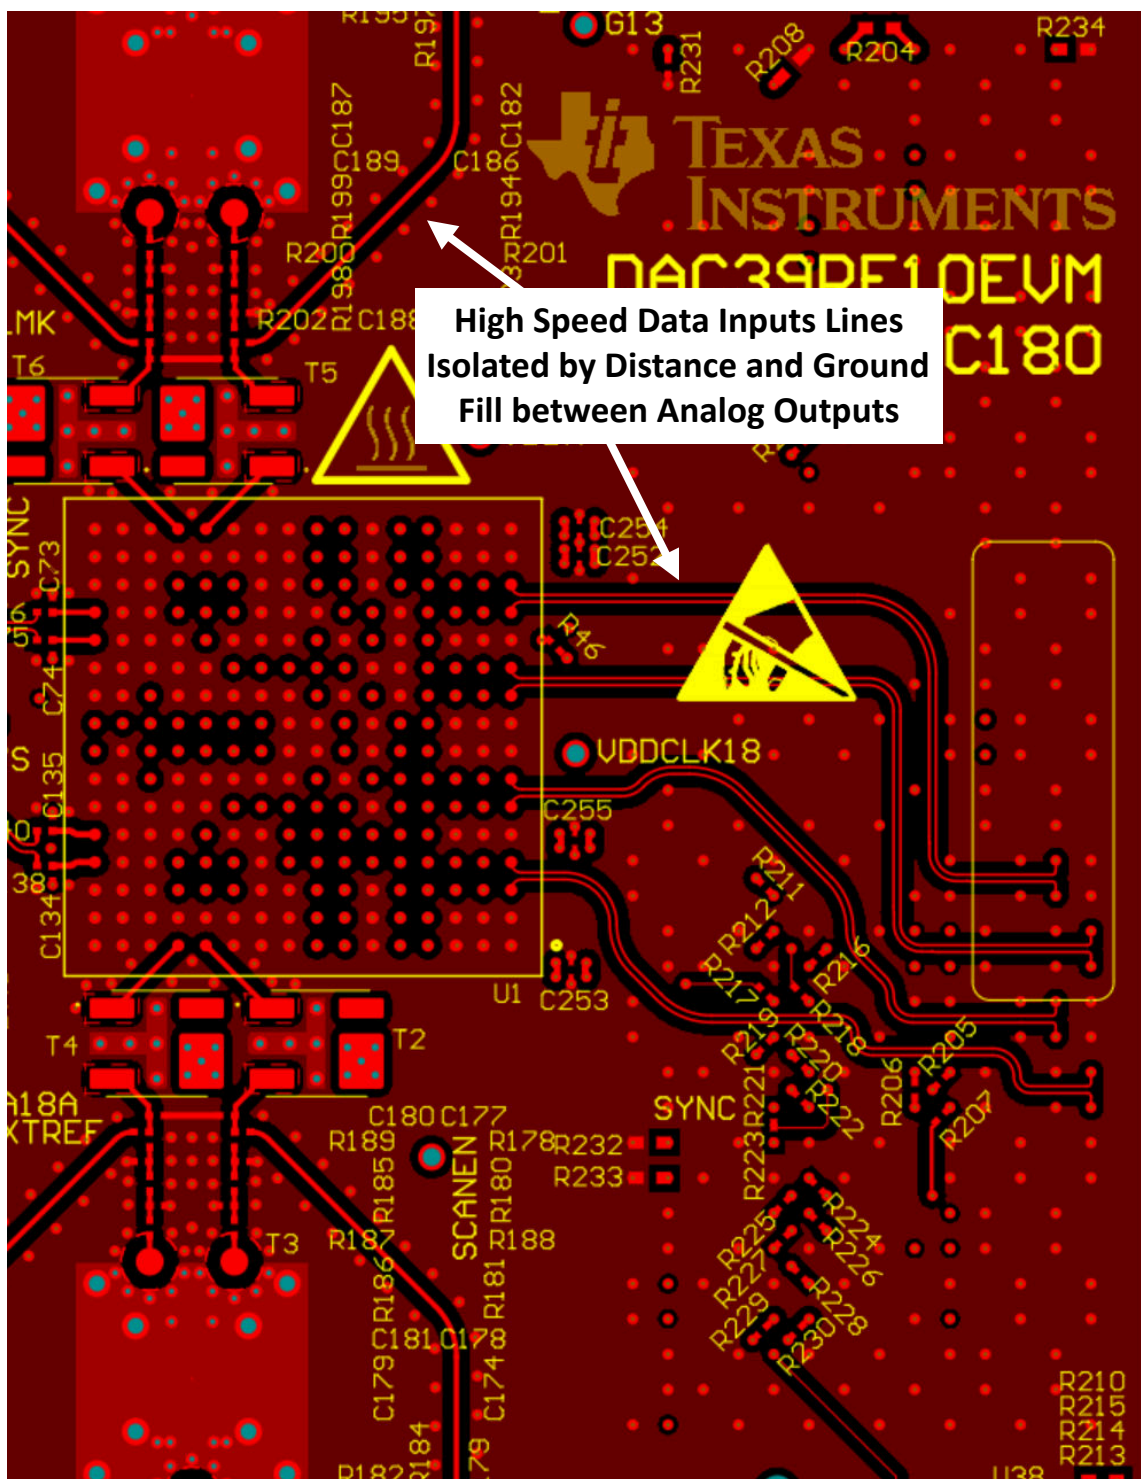
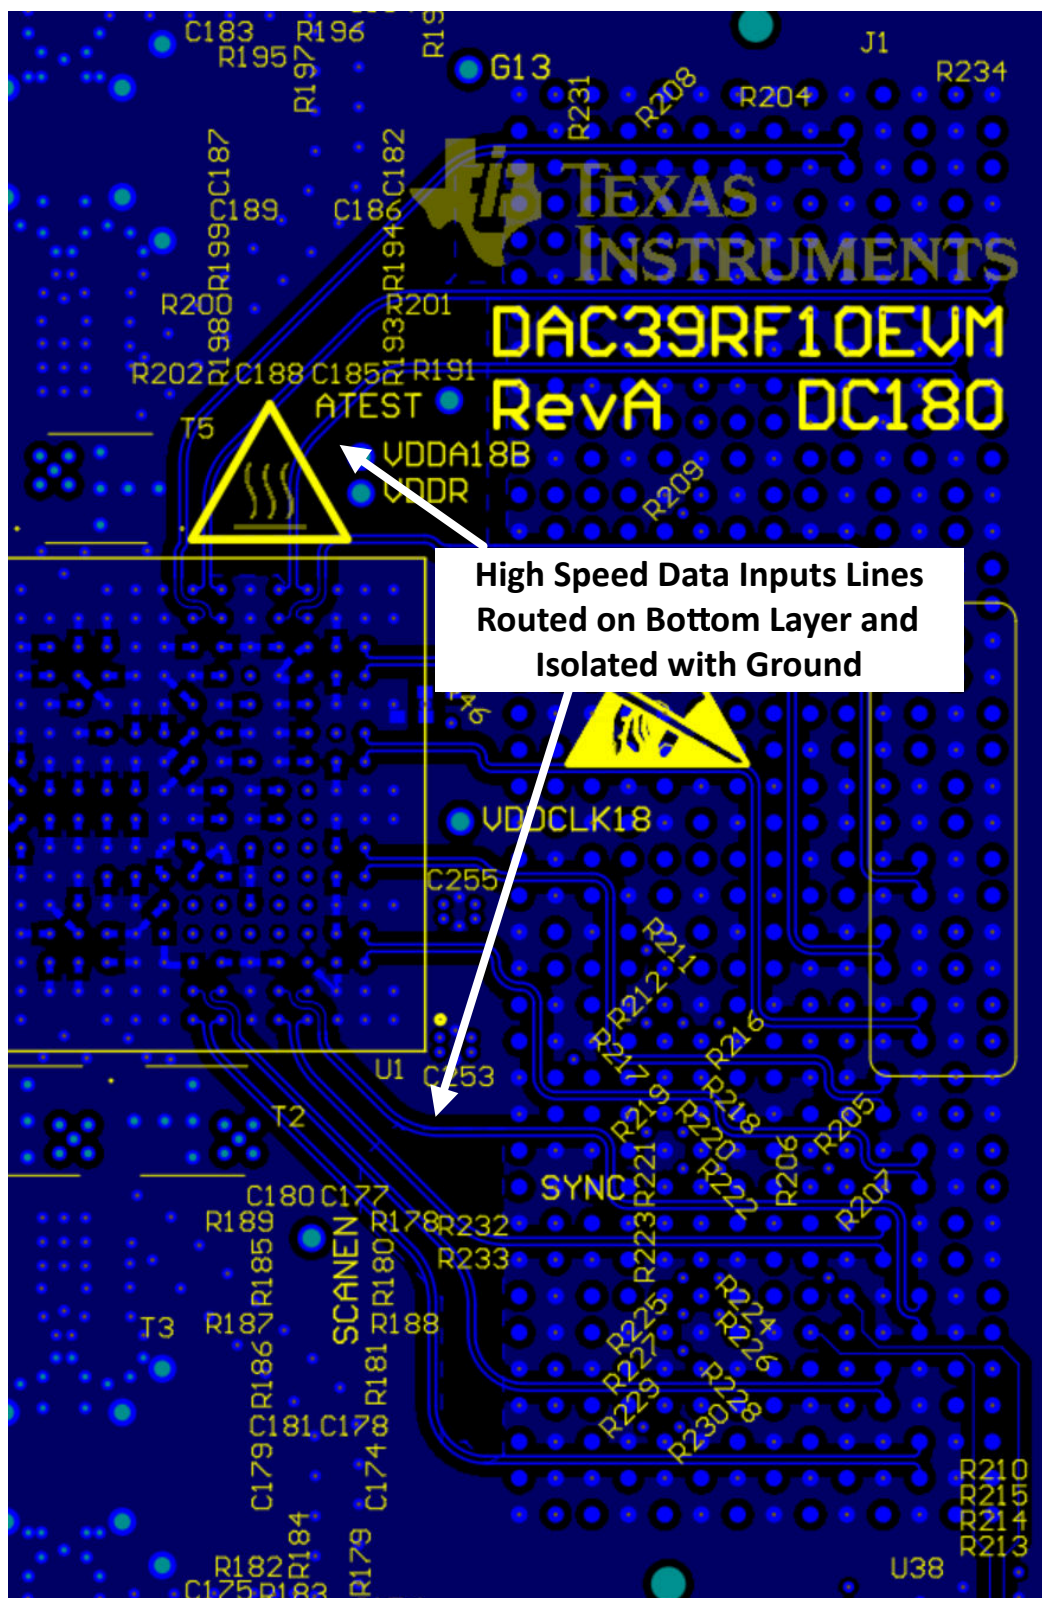

Figure 9-27. Serdes Top Layer Routing with Ground Fill Isolation
Figure 9-28. Serdes Bottom Layer Routing with Ground Isolation
9. Pay particular attention to potential coupling between JESD204x data input routing and the analog output routing. Switching noise from the JESD204x inputs can couple into the analog output traces and show up as wideband noise due to the high bandwidth of the DAC. Route the Serdes JESD204x data inputs on a separate layer, if possible, from the DAC output traces to avoid noise coupling, see Figure 9-27 and Figure 9-28 as examples.